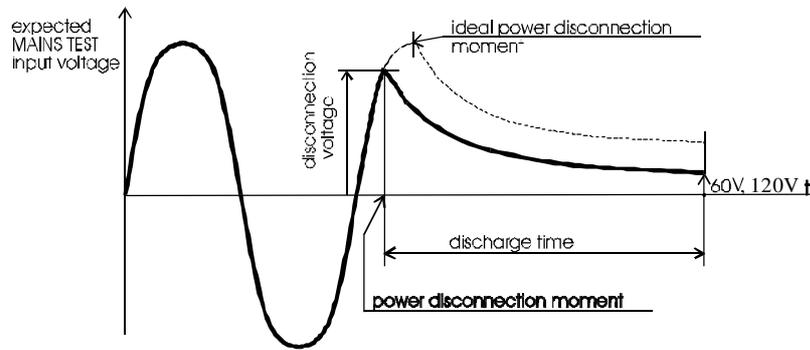

Fig. 25. Voltage on MAINSTEST input
- STEP 6.** Pull out double connection element and wait for the result to be displayed. If the disconnection voltage is high enough to carry out a measurement, (see fig. 25) **Start** message is displayed and the measurement will be performed. If the voltage is not high enough then the result of 0.0 s and **Repeat** message are displayed. In this instance repeat measurement from STEP 3. If the result 0.0 s and **Repeat** message reappears repeat measurement 5 to 10 times successively, the result 0.0. it can be accepted as valid. **Timeout** is displayed if the double connection element is not pulled out in 10 s, or discharging time is higher than 10 s.
- STEP 6.** Pull out power supply connector and wait for the result to be displayed. If the disconnection voltage is high enough to carry out a measurement, (see fig. 25) **Start** message is displayed and the measurement will be performed. If the voltage is not high enough then the result 0.0 s and **Repeat** message are displayed. In this instance repeat measurement from STEP 3. If the result 0.0 s and **Repeat** message reappears repeat measurement 5 to 10 times successively, the result 0.0 it can be accepted as valid. **Timeout** is displayed if the double connection element is not pulled out in 10 s, or discharging time is higher than 10 s.